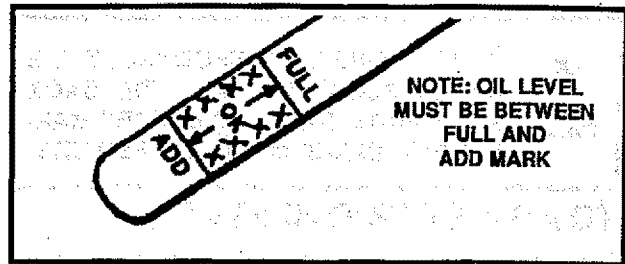

FIG. 20
Check the crankcase oil level (See Fig. 20) before starting the engine and after each five (5) hours of continuous use. Add S.A.E. 10W-30 motor oil or equivalent. Tighten fill cap/dipstick securely each time you check the oil level. S.A.E. 5W-30 motor oil may be used to make starting easier in areas where temperature is consistently 20° F. or lower.